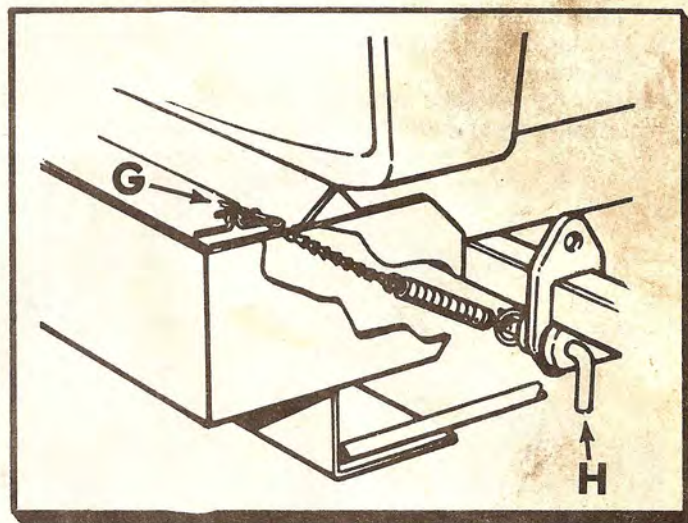

Fig. 8
## INSTALLATION OF GEARBOX RETAINER SPRING FIG. 8
To offset tension produced by the sickle bar clutching belt, a retaining spring must be added to the left side of the gearbox assembly. (Fig. 8 )
Remove hair pin from chain and toggle (G) Fig. 8. in upper left-hand corner of gearbox assembly, but leave chain in hole. Re-attach end of spring to washer on locating pin (H) and hook opposite end through last link of chain and toggle. Add tension to spring by pulling six to nine links out through hole in gearbox and secure by placing hair pin just above hole in gearbox assembly.